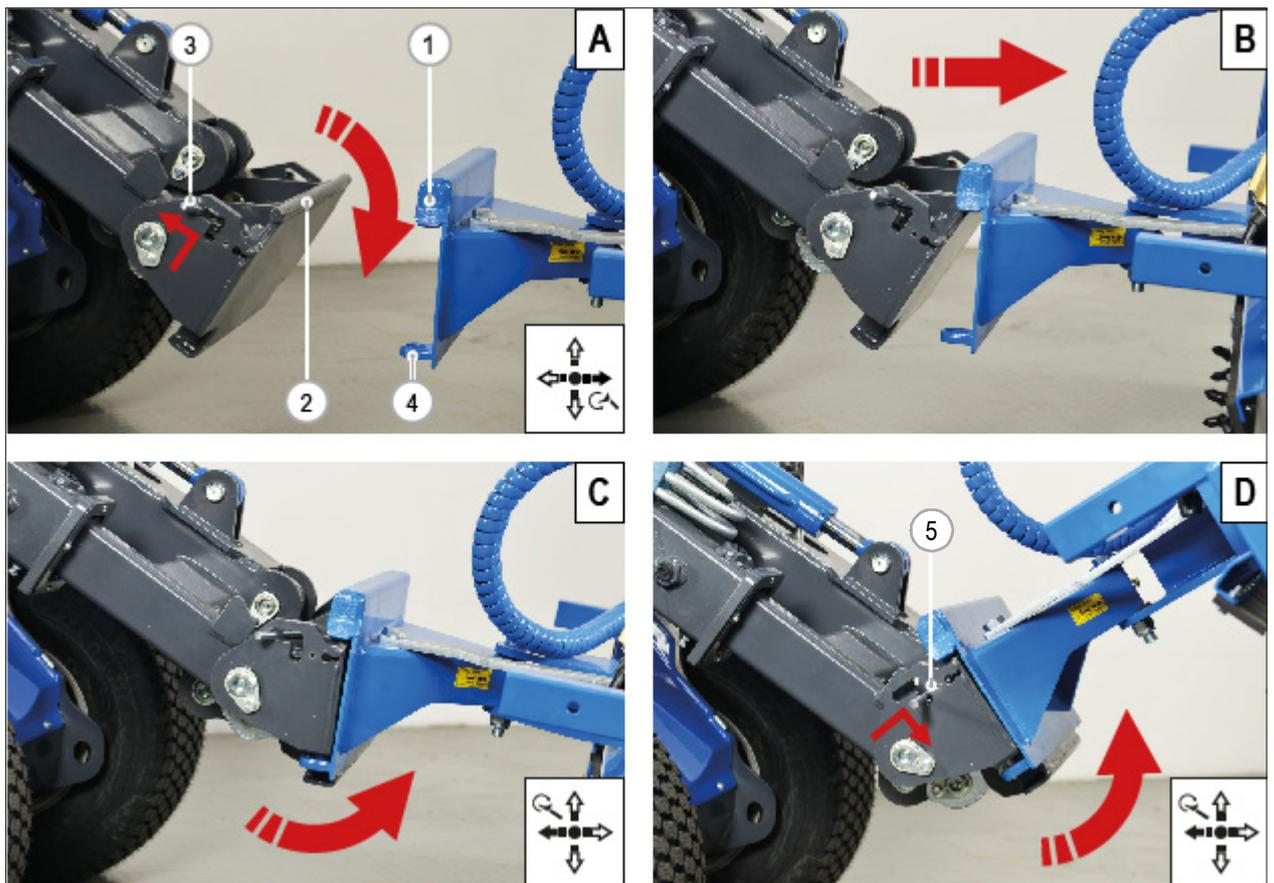

FIG. 30
- 6) Lift and push back the two levers (FIG. 30 - Ref. 3) placed on the quick coupler, in order to raise the hook plugs.
- 8) Operating carefully draw up the quick coupler to one of the attachment so as to go up the upper round profile (FIG. 30 - Ref. 2) in their curved seats of the attachment (FIG. 30 - Ref. 1).
- 9) Move slowly the joystick to the left, in this way the quick coupler leans backward, continue after lifting of a few centimetres the quick coupler and automatically the coupling system closes allowing the two plugs to fit in the seats of the attachment (FIG. 30 - Ref. 4).
- 10) Check visually the two levers (FIG. 30 - Ref. 5) are in low position. If not, it means the coupling was not successful.
- 1) Lift and push back the two release levers (**FIG. 30 - Ref. 3**) from the quick coupler in order to disengage the two plugs.